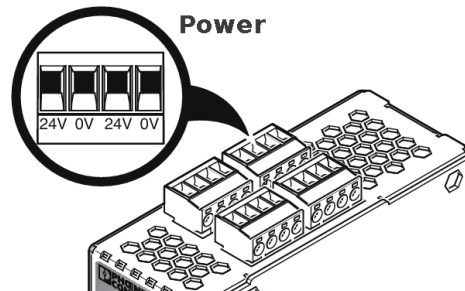

Figure 8-4 Connecting the supply voltage
- Insert the screw terminal blocks into the intended sockets on the top of the device (see Figure 8-4).